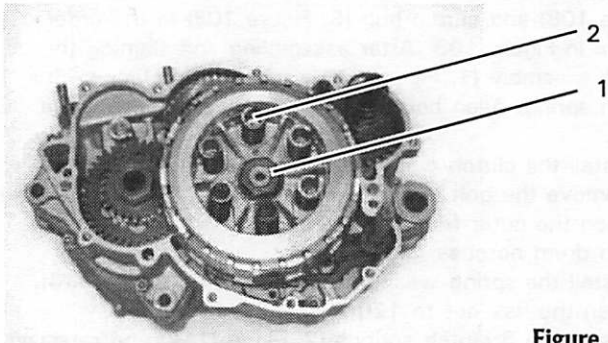
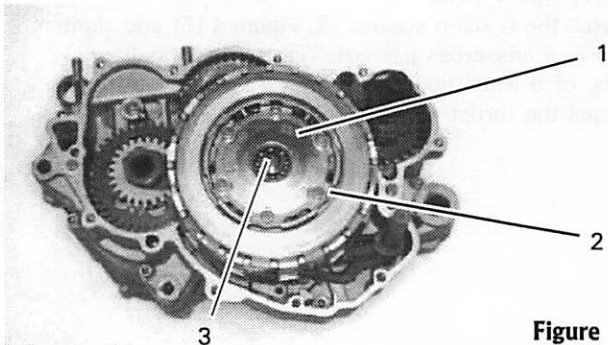

Figure 114
Figure 115
6. Install the spring washer and hex nut (1, Figure 114).
8. Install the 6 clutch springs (2, Figure 114) and retaining plate (1, Figure 115).
9. Install the 6 Allen screws (2, Figure 115) and tighten evenly in a crisscross pattern. Tighten to a final torque reading of 6 N.m (50 in.-lb.).
10. Install the thrust hub (3, Figure 115).